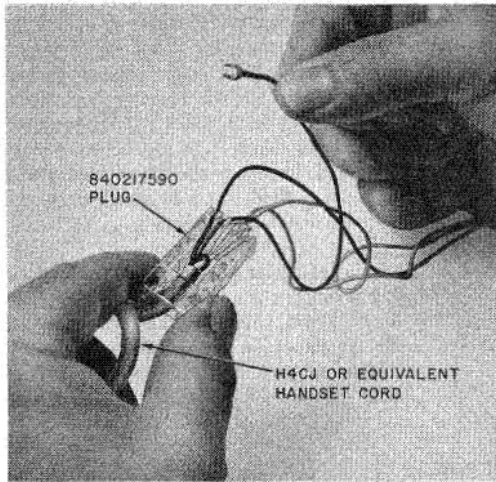

Fig. 3—Installing Spade-Tipped Handset Cord Leads
**3.08** *Installing Spade-Tipped Handset Cords in Early Production Sets Equipped with G12A Handset:* To install spade-tipped handset cord (H4CJ or equivalent) remove J Hook Stayband from the cord. Cut back and remove cord sheath to stayband marks. Thread spade-tipped conductors through plug (Fig. 3) (spade tips must be bent to clear cord entrance). Pull cord until about 1/4-inch of cord sheath is in the central